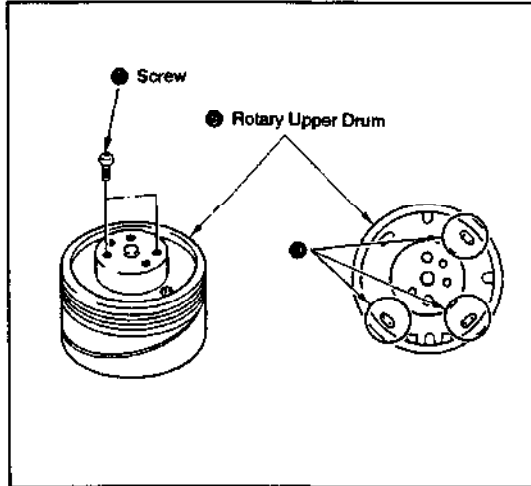
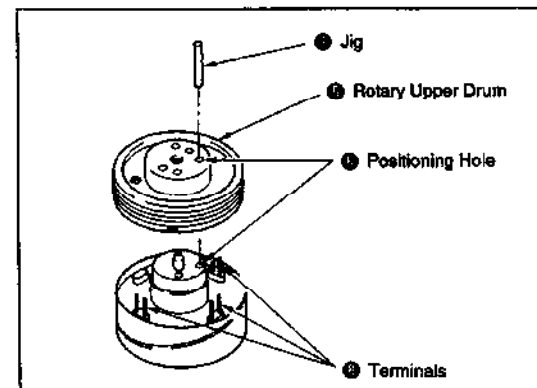

Fig. 3-22.
Fig. 3-24.
- 1) Detach the six solderings ①, then use a pair of tweezers or the like to confirm that the terminals passing through the board holes from below can move freely.
- 2) Remove the two screws ② (See Fig. 3-22).
- 1) Wipe clean the flange surface and the rotary upper drum ⑥ surface that makes contact with it, and confirm that they are free from dirt and scratches.
- 2) Insert the jig ③ (Ref. No. J-7) into the drum positioning hole, then set the rotary upper drum ⑥ by passing the jig through its positioning hole ⑦.
**Note:** Confirm that the terminals ⑧ protrude slightly from the rotary upper drum board holes (See Fig. 3-24).
- 3) Remove the jig ③ and push down the rotary upper drum ⑥ gently by hand. If it does not go all the way down, secure it temporarily by tightening the two hexagon socket screws ⑤ alternately.
- 4) Insert the jig ③ into the positioning hole ⑦ again and confirm that it goes in smoothly. If it does not, loosen the two screws ⑤, repeat step 3 of the Removal paragraph and restart the setting procedure.
- 5) Tighten the screws ④.
- 6) Solder the terminals ⑧ (& ⑨ in Fig. 3-22).